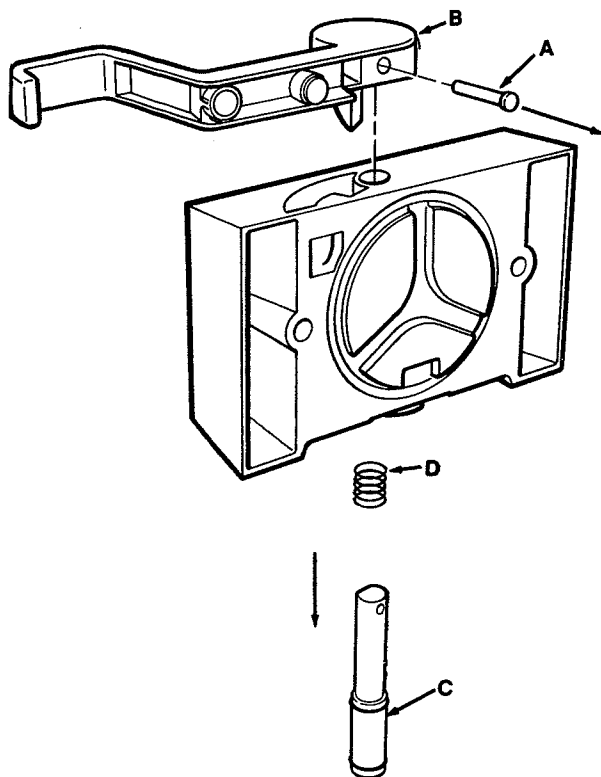

Figure 33. Front Door Disassembly
- L. Pull clevis pin (A) and remove spigot handle (B). Push spigot (C) through bottom of front door. Remove spring (D) from spigot. (See Fig. 33.)